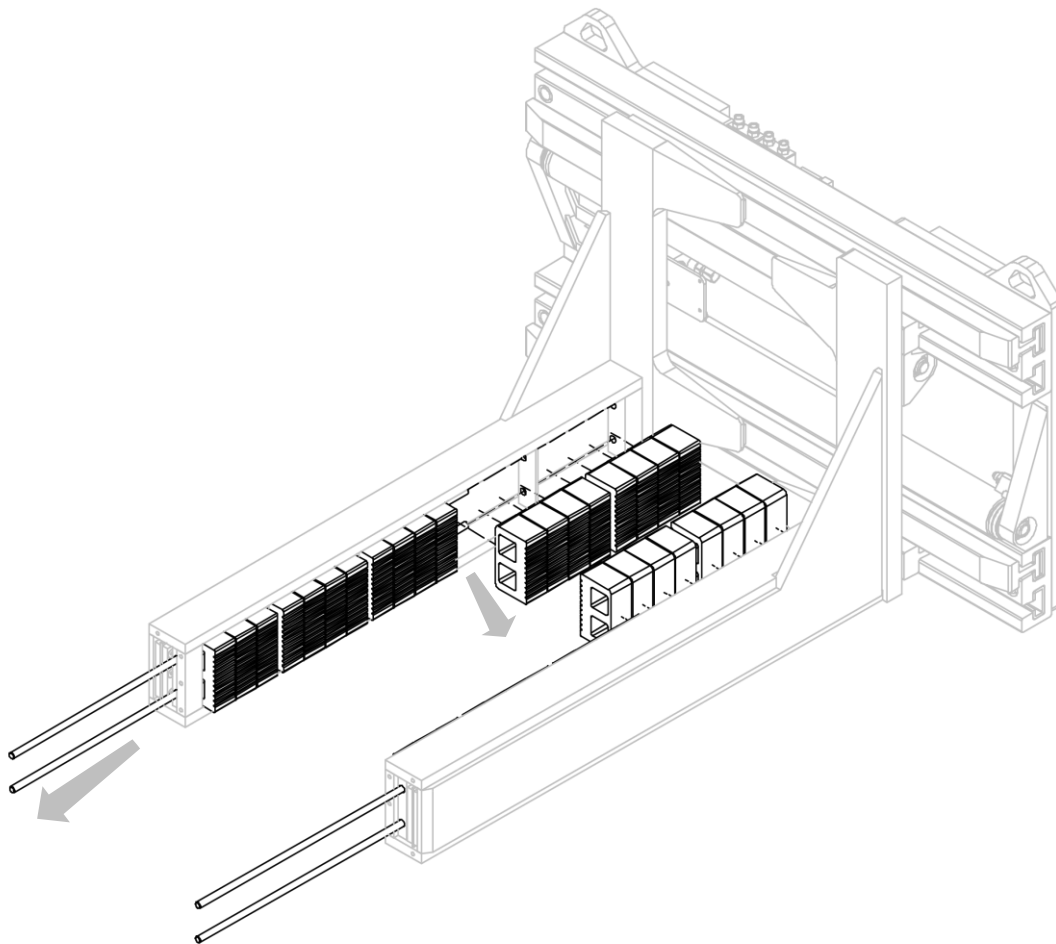

Figure 34
2. Remove the fastening pins from their housings and, in the process, remove the polyurethane blocks (see *Figure 34*).